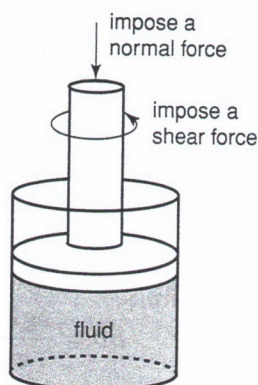

Figure 4.63
6. Describe how a confined fluid, such as olive oil in the device shown in Figure 4.63, responds to shear forces imposed by the rotation of the lid. How does the fluid respond to normal forces imposed by pressing down on the lid?
7. For the fluid-filled device in Figure 4.63, we can write the forces imposed on the fluid in a cylindrical coordinate system, with \hat{e}_z vertically upward and parallel to the axis of rotation. In this coordinate system with a pure normal force imposed, what is the vector representation of the normal force \underline{N} on the lid? Which components are zero? Give your answer in both matrix form and component/basis-vector form (with the \hat{e}_r , \hat{e}_θ , \hat{e}_z basis vectors). In the case of the lid rotating, write the tangential force on the lid in the cylindrical coordinate system. Which components are zero? If the lid is subjected to a force that has both normal and tangential components, what does the force vector look like in the cylindrical coordinate system?